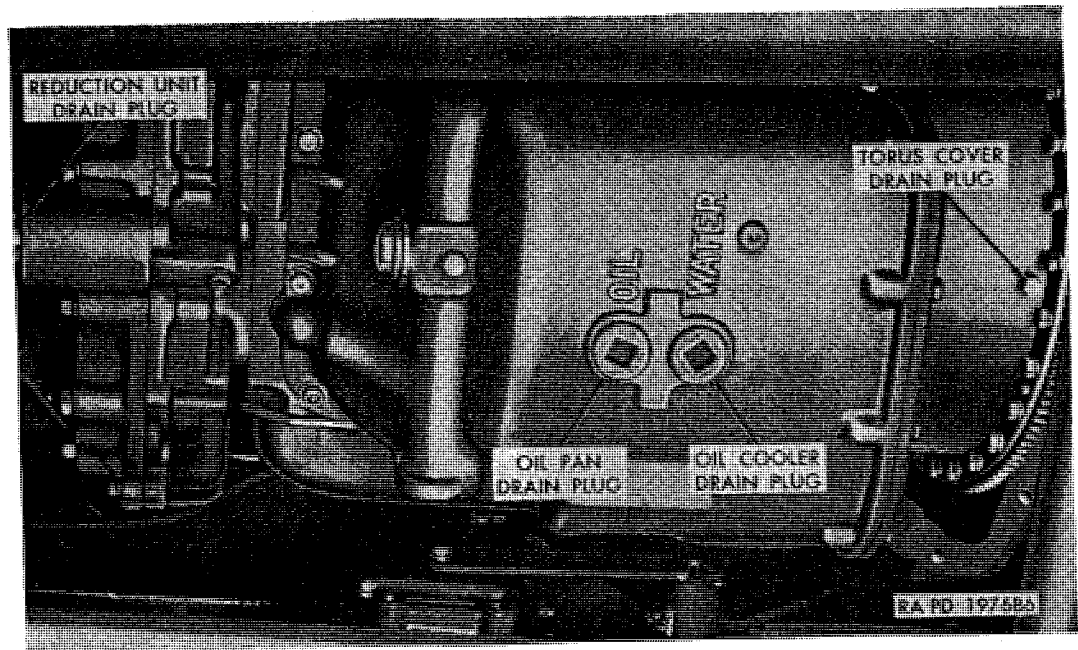

Figure 186. Transmission oil and water drain plugs installed—flywheel housing cover removed.
d. Draining Transmission Oil (fig. 186).
- (1) *Drain fluid coupling.* Remove eight cap screws and lock-washers attaching flywheel housing cover to flywheel housing; then remove cover. Turn engine flywheel until torus cover drain plug is at lowest point; then remove torus cover drain plug. Discard plug gasket.
- (2) *Drain oil pan.* Remove transmission oil pan drain plug from bottom of oil pan. Discard plug gasket.
- (1) Check for loose oil pan to transmission case attaching cap screws and nuts. If found loose, tighten cap screws and nuts to 10 to 13 pound-feet torque. If leakage at this point continues, cause may be defective oil-pan-to-transmission-case gasket. Replace gasket as in (a) through (k) below.
- (a) Remove drain plug at bottom of transmission oil pan marked WATER and drain water from transmission oil cooler in oil pan. Refer to figure 186.
- (b) Remove magnetic oil pan drain plug from transmission oil pan (plug is marked OIL) and drain oil from transmission oil pan into a clean receptacle. Refer to figure 186.
- (2) If leakage is found at transmission oil pan drain plug, check to see if plug is loose. Tighten plug to 35 to 45 pound-feet torque. If leakage continues, remove drain plug and gasket from oil pan. Discard gasket. Install new gasket on drain plug; then install plug in oil pan. Tighten plug to 35 to 45 pound-feet torque.